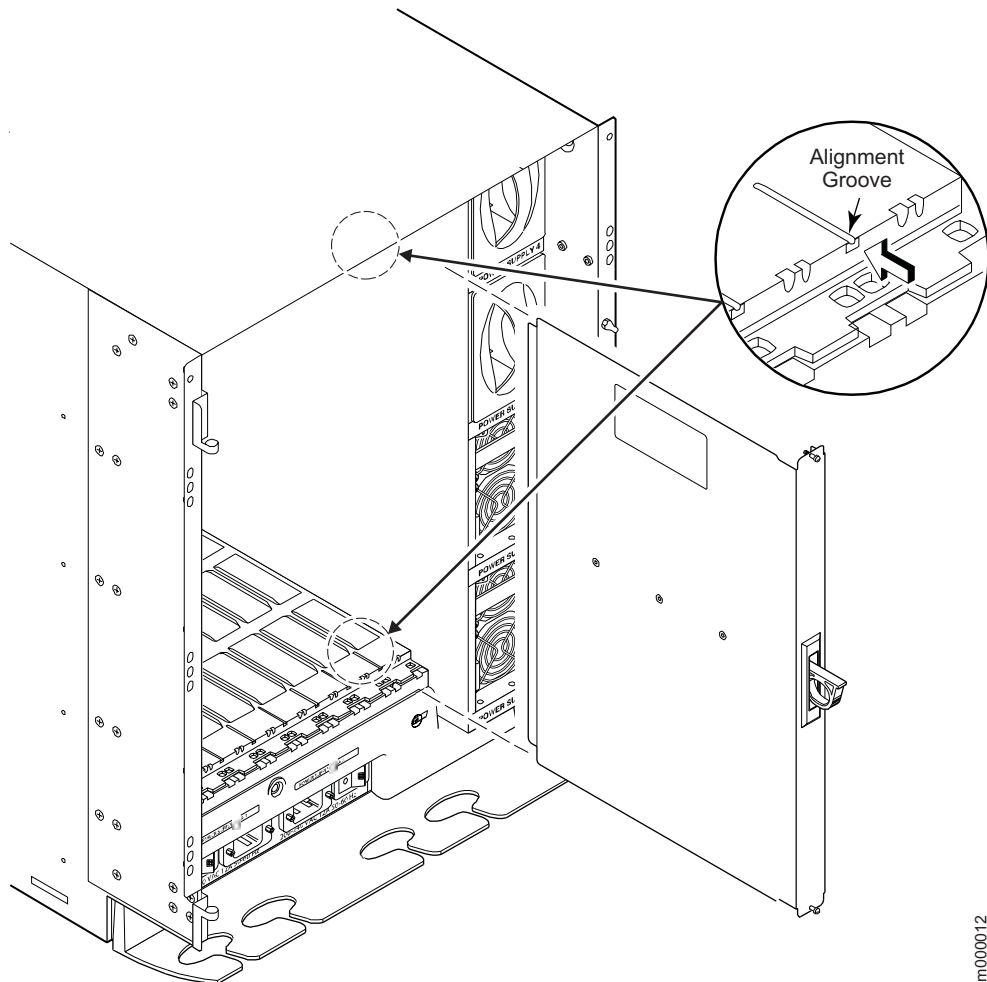

Figure 40. Card guides inside each card slot
2. Open the ejectors to approximately 45 degrees. Align the flat side of the 16-port card inside the upper and lower rail guides in the slot. See Figure 40, which shows the alignment groove detail with a filler panel installation. Slide the 16-port card into the slot, with slight pressure to the left, until it is firmly seated.
1. Align the flat side of the filler panel inside the upper and lower rail guides in the slot (see Figure 40 on page 58). Slide the filler panel into the slot (with slight pressure to the left) until it is firmly seated.